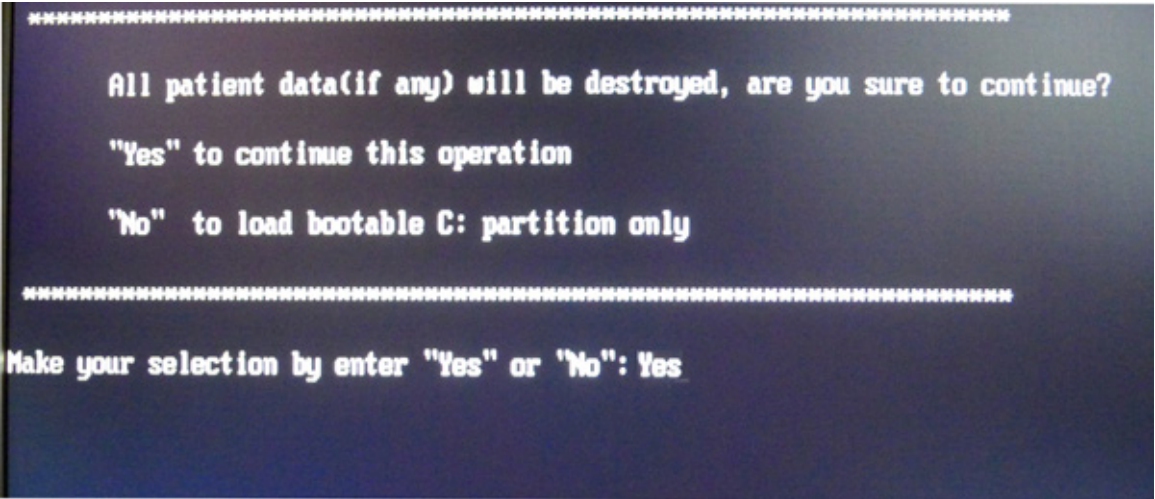

Figure 3-33 Upgrading selection
- 10.)When the message displays as shown in Figure 3-33 on page 3-36 , input “Yes“ and press on “Enter“ key on the keyboard to continue the steps.